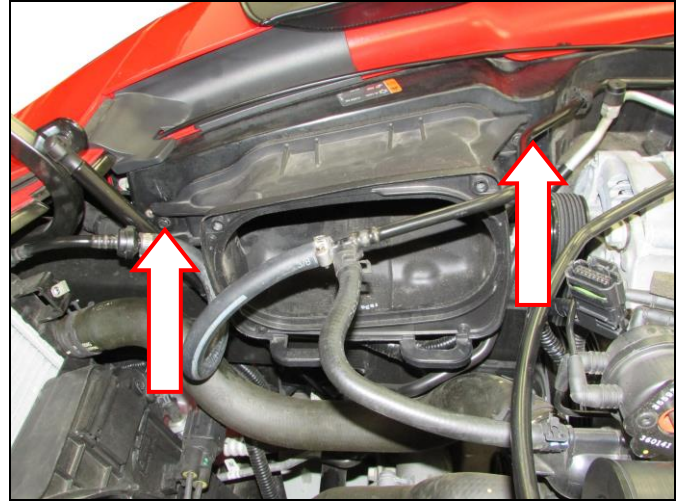

Figure 4
7. Next remove the (x2) bolts securing the factory airbox. Pull the airbox out and remove from vehicle (**Figure 4**).